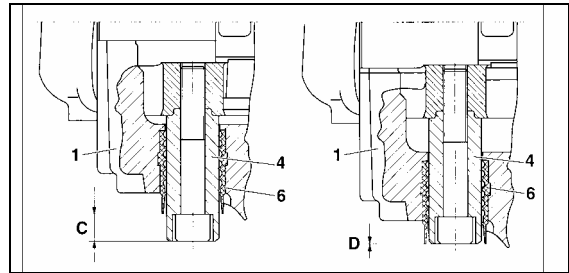

FIGURE 37: BRAKE PAD CHECK
condition without removing the wheel, verify the position of guide bushing (6) relative to guide sleeve (4) (Fig. 37). When guide sleeve is in alignment with guide bushing, brake pad thickness must be checked more precisely with wheel removed. When replacing the brake pads, all four pads on an axle have to be changed at the same time. There is no inner or outer pad, since all pads are the same. Worn pads should be replaced in the same position.